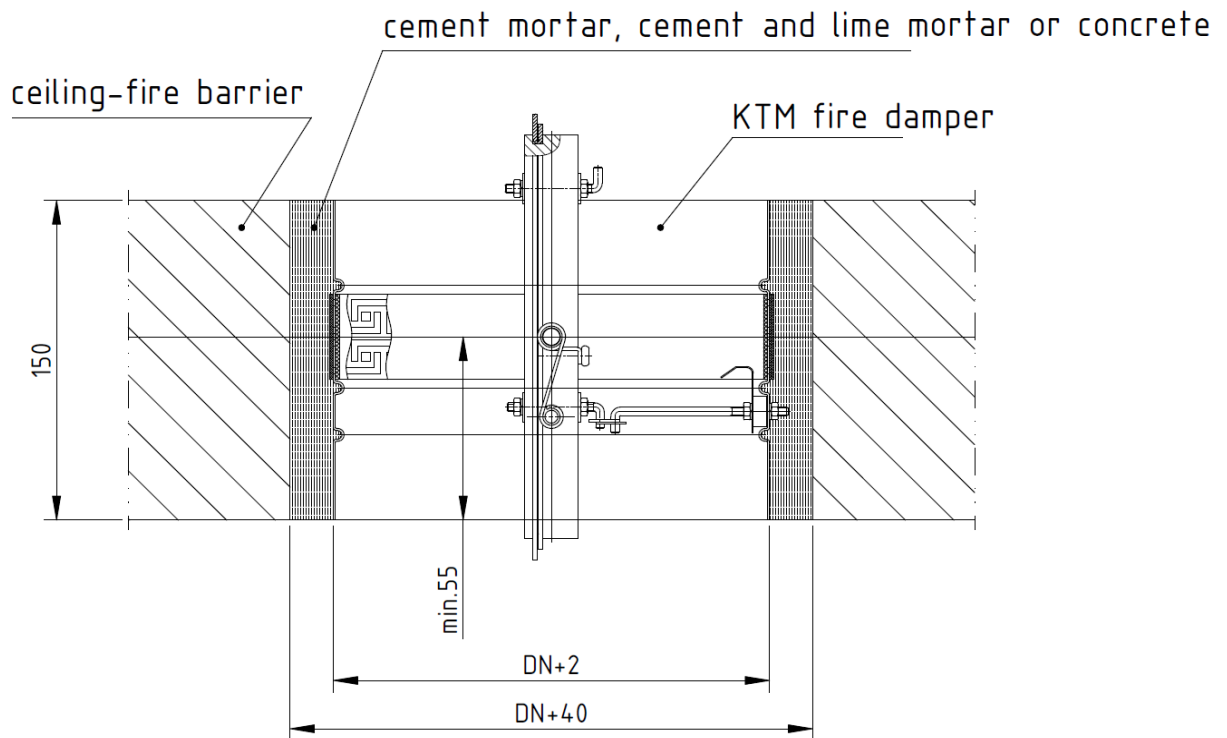

Figure 9. Installation of KTM fire damper (female coupling) in rigid ceiling barrier
according to figure 9, 10 and 11
2. Put the fire damper into the installation opening, suspend or support it in such way that damper blade axis is in the distance of not less than 55 mm from bottom or top surface of the ceiling (see fig. 9 and 10).